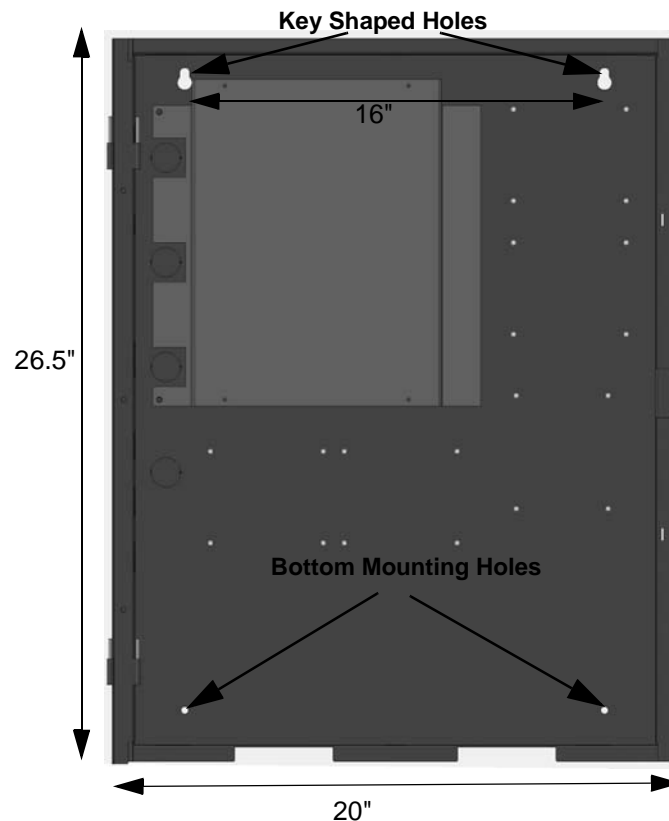

Figure 3-8 IFP-2100ECS or ECS-LOC2100 Cabinet Mounting Holes
The Cabinets can be mounted on the wall surface by using the mounting holes in the back of the cabinet (see Figure 3-8). For more information, refer to Installation manual for IFP-2100ECS. P/N LS10143-001SK-E. Cabinet backbox dimensions are 26.5"H x 20"W x 4.1"D
The ECS-Series cabinets can be mounted on the wall surface by using the mounting holes in the back of the cabinet (see Figure 3-8).
1. Insert two screws level with each other, 16" apart for the top cabinet key shaped holes. See Figure 3-8.